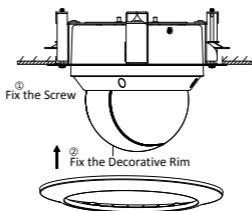

Figure 2-32 Assemble the Decorative Rim
- Fix the decorative rim with the bubble and the decorative rim will be attached to the in-ceiling bracket automatically, as shown in Figure 2-32.